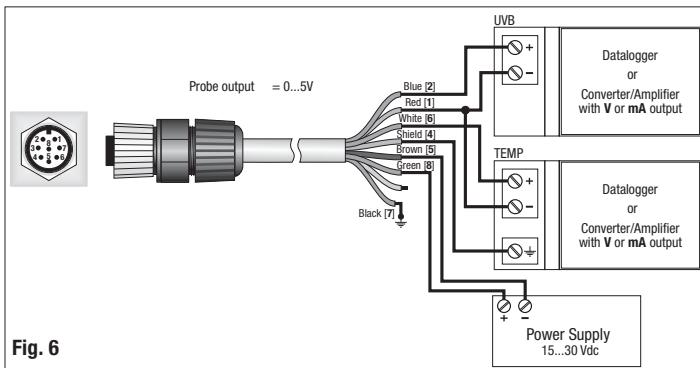

Fig. 6
N.B. The input load resistance of the data acquisition system must be greater than $10\text{k}\Omega$. The connection scheme is shown in figure 6.
The UV-resistant cable (supplied on request) has 5 wires plus the braid (screen); the colour code is shown in fig. 6.